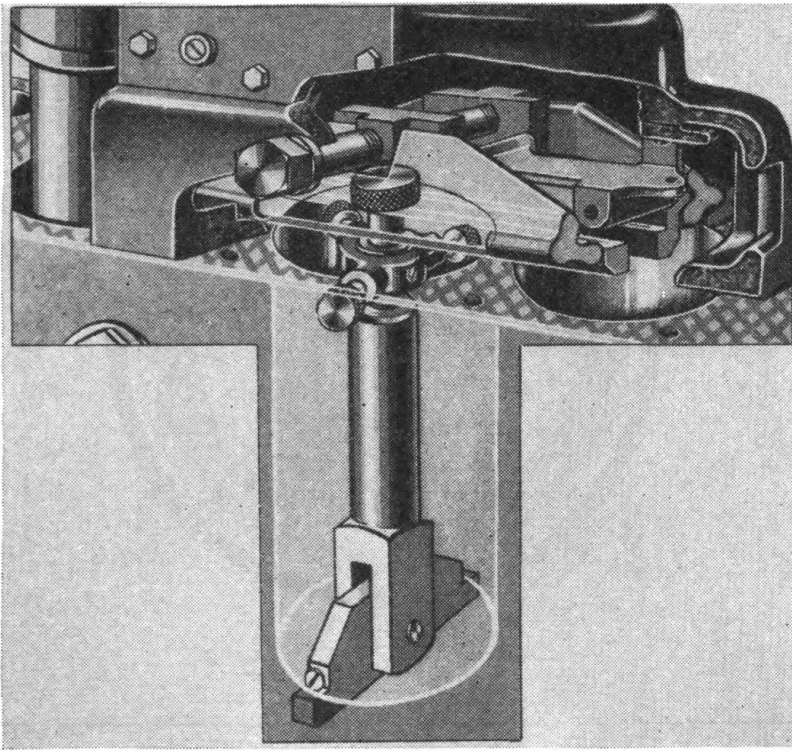

FIGURE 119.—Set-up of cylinder boring machine.
b. Use of cylinder boring machine.—The cylinder boring machine is made to clamp solidly to the cylinder block of the engine by means of an anchoring device which hooks to the bottom of the block through the cylinder next to the one being ground. One such anchoring device is illustrated in figure 119, installed on a cylinder block. The object in anchoring the machine is to have the boring bar properly centered and solidly mounted so that the cylinder will be bored the right size and on the right center. It is impos-